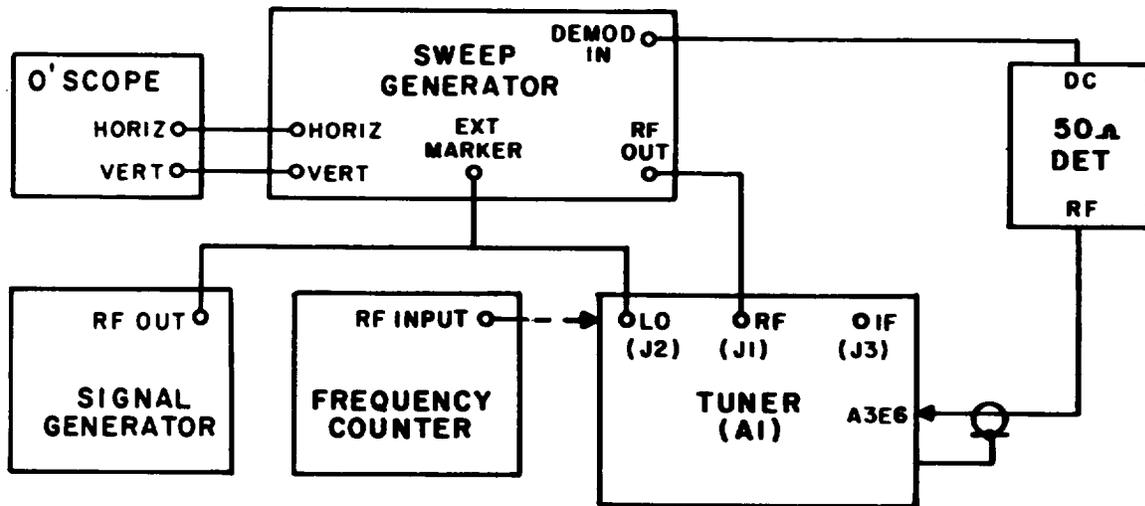

Figure 4-16. Test Setup, Tuner Interstate Alignment
- (1) Connect the equipment as shown in Figure 4-16. The lead between the 50 ohm detector and A3E6 should be less than 2 inches in length. Also, the shield must be short and grounded to the tuner chassis, preferably soldered.
- (1) Connect the equipment as shown in Figure 4-16, except the RF jack of the 50 ohm detector should be connected to A1J3, the IF output.
- (2) Vary the tuner and sweep generator through the band and note the minimum and maximum gain points. Vary the sweep generator attenuator to place the response peak to those two levels. The attenuator variation should be no more than 6 dB.
- (3) Tune through the band to relocate a nominal gain point.
- (4) With the tuner at the nominal gain frequency, adjust the value of R23 to set the gain at 19 dB. To measure the gain, perform steps (5) through (8).
- (5) With the tuner at a nominal gain frequency, establish a convenient reference by varying the sweep generator output. Note the attenuator setting.
- (6) Remove the cable from A1J1 and connect it to the RF input of the 50-ohm detector.
- (7) Increase the output level of the sweep generator to regain the reference set in step (5). Note the attenuator setting.
- (8) The difference between the attenuator setting in step (5) and in step (7) is the overall tuner gain at that frequency. It should be 19 dB. Minimum and maximum gains should be 16 and 22 dB, respectively.
- (9) Set the tuner and sweep generator to 500 MHz. Establish a reference level and note the sweep generator attenuator setting. Set the variable power supply to -10 volts and connect to FL2.
- (10) Increase the sweep generator output 31 dB and adjust A1A2R16 for the same response amplitude set in step (9). This completes the tuner alignment.